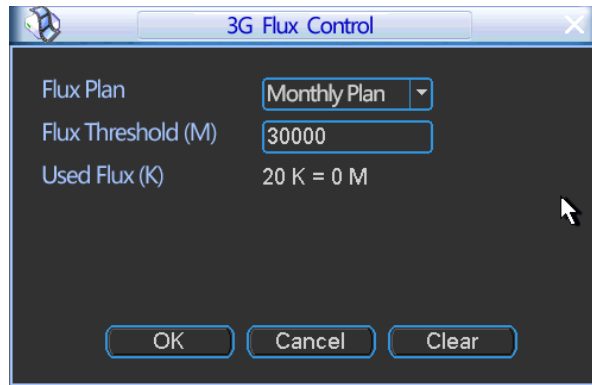

Figure 5-19
- 3G flow control: It is to show the 3G flow you used. See Figure 5-19.